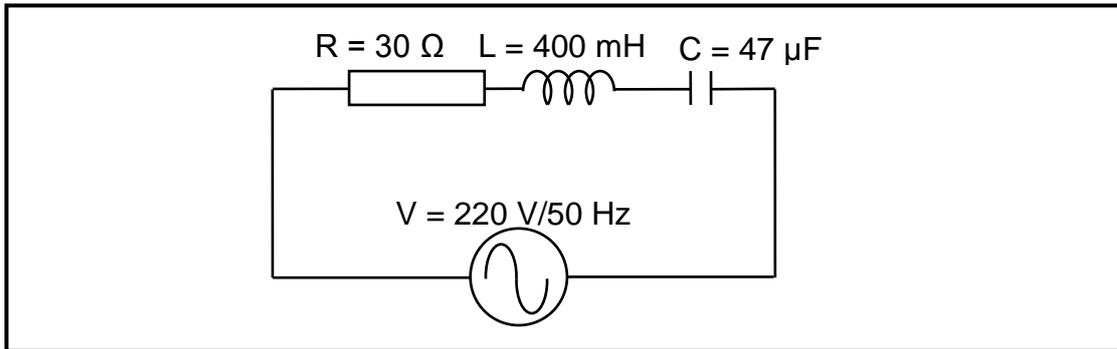

FIGURE 5.1: SERIES RLC CIRCUIT
5.5 Refer to the circuit diagram in FIGURE 5.1.